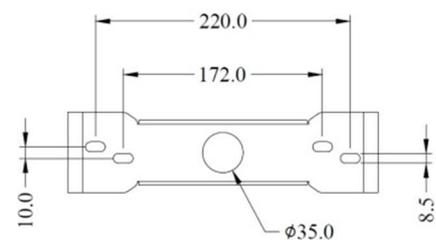

Figure 3
- ☞ Secure the wall mounting bracket to the structure by using four fasteners (not provided).(Figures 3)